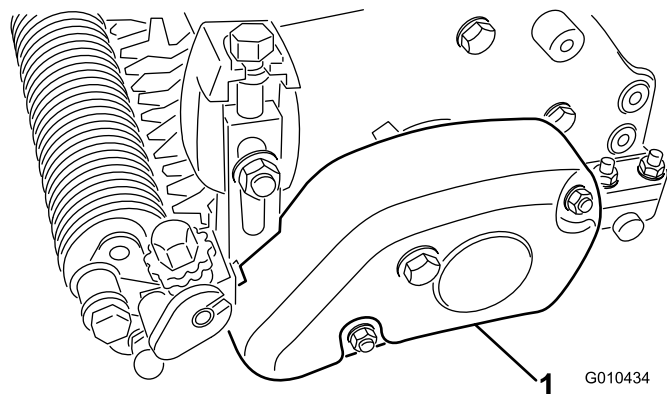

Figure 20
3. Mount the belt cover to the groomer housing assembly with 2 locknuts (M8) as shown in Figure 20.